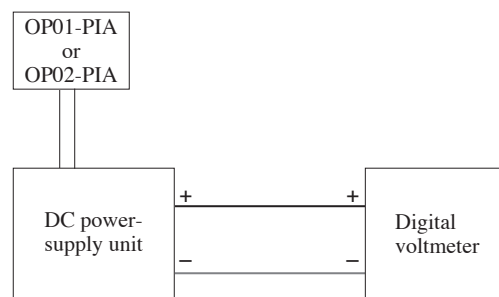

Fig. 3-13 Voltage calibration
As shown in Fig. 3-13, connect a digital voltmeter to the output terminal of the DC power-supply unit.
2. As shown in Fig. 3-13, connect only a digital voltmeter to the output terminal.